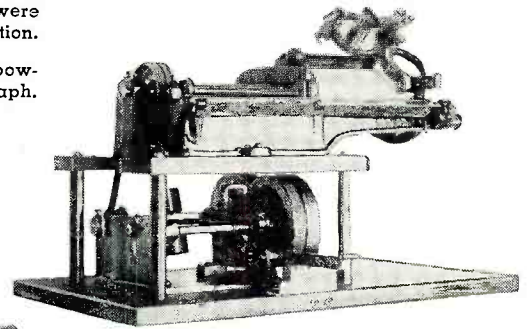

Fig. 6. The first "treadle phonograph" of Edison, Circa 1888.
Next in order of development was the "Treadle Phonograph" of Edison, Fig. 6. This model was first produced in 1888. For the most part, this machine was quite similar to its predecessors, the main difference being in the mode of operation. Reference to the illustration shows a hard wood base of solid oak, upon which was mounted a support shelf for the phonograph mechanism. Mounted to the base was a simple treadle device comprising an operating lever which was pumped up and down by hand, which in turn rotated a shaft upon which was mounted two heavy flywheels. Its action was similar to that of a steam locomotive. A governor was coupled to the drive shaft and served to stabilize the rotation. A flat leather belt coupled the driving mechanism to the main shaft of the phonograph, as shown. This model also used Edison's "spectacle-type" recorder-reproducer. Only a few of this model were ever made.
Fig. 6. Horizontal waveforms at the input to horizontal output amplifier. (A) shows the correct waveform, (B) shows an attenuated sweep signal with incorrect shape.